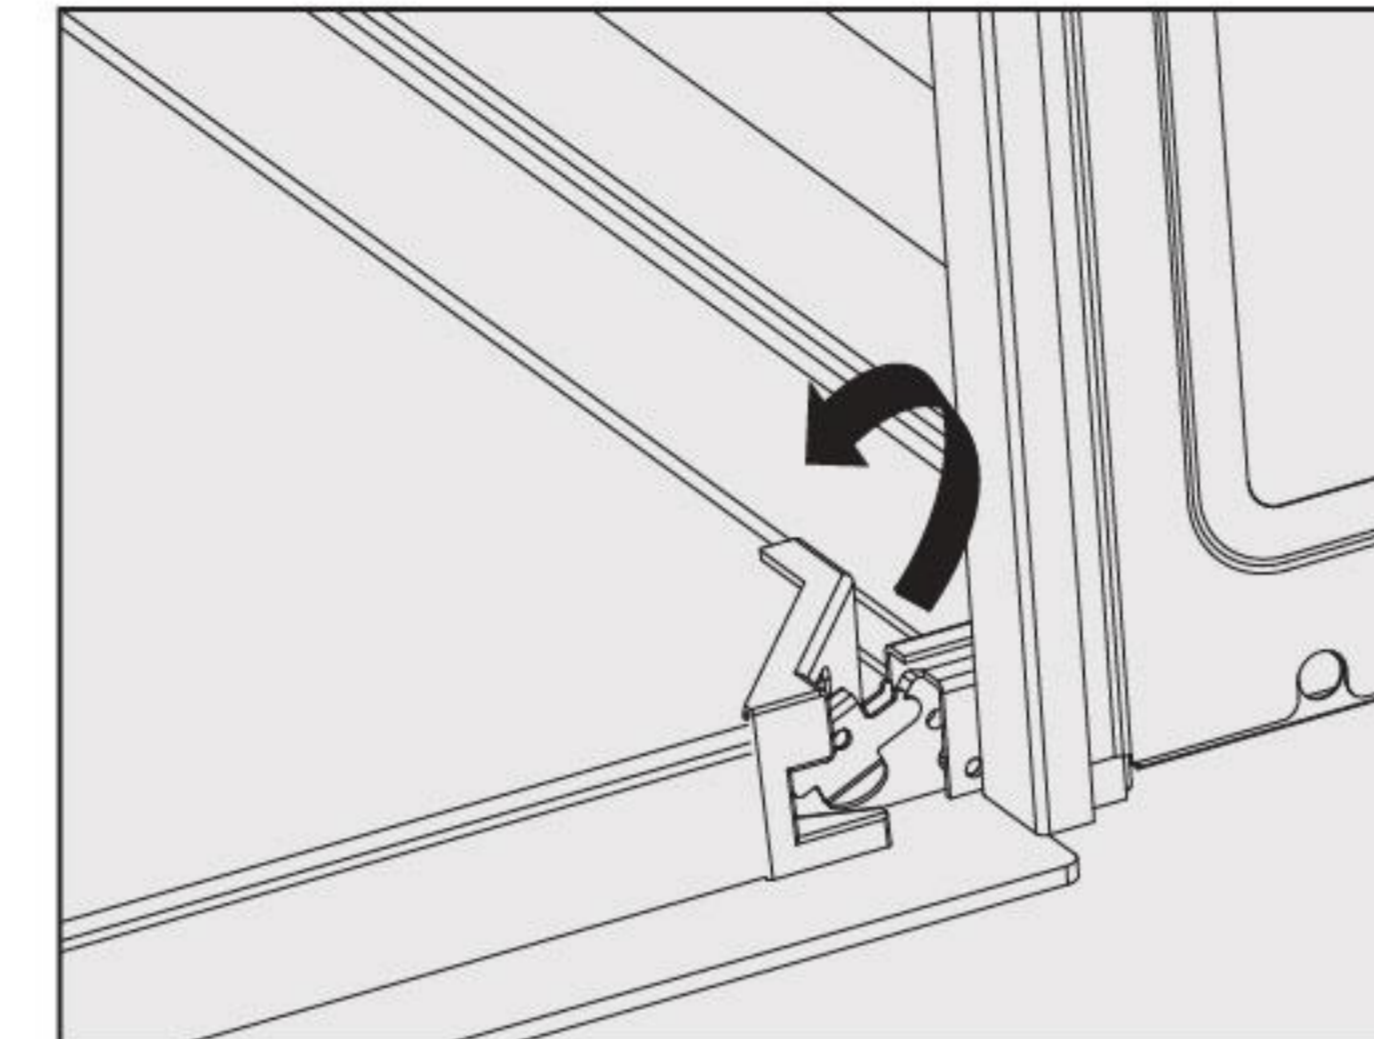

fig.2
- Release the locking clamps on the hinges turn them upwards as far as they will go until they are at an angle. (fig.2)